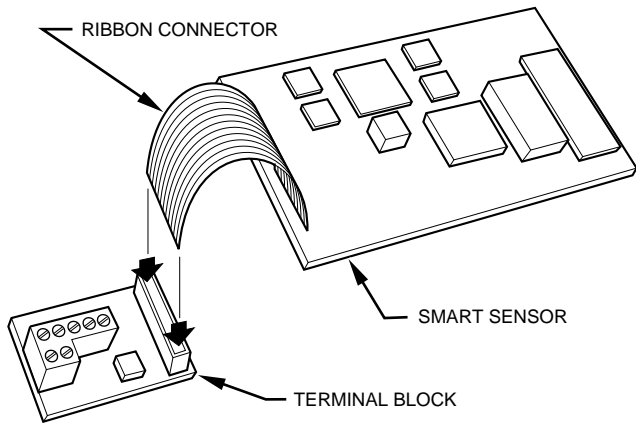

Fig. 3—Aligning Ribbon Cable
3. Align ribbon cable from smart sensor with ribbon connector on connector block and push gently. (See Fig. 3.)